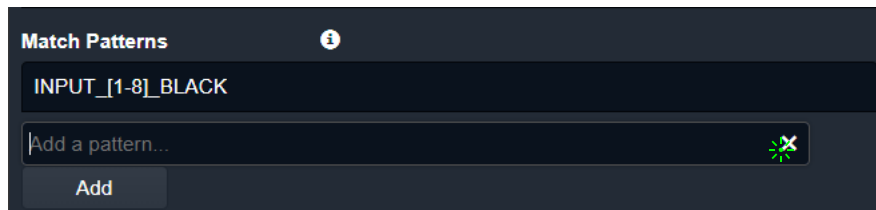

Figure 53: Clear Match Pattern Entry Text Box
- 1 Clear the text entry box by clicking on the **x** that appears when the cursor hovers over the right-hand end of the text box. (See Figure 53.)